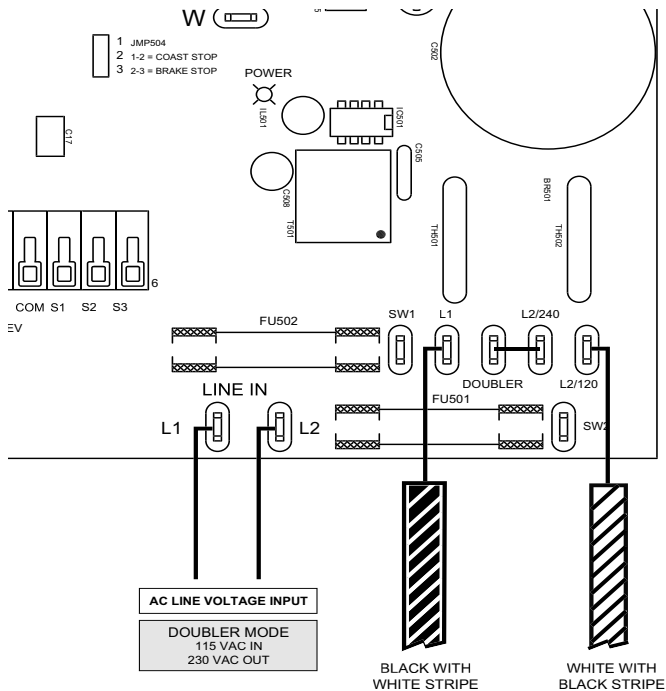

Figure 3. AC Line Connection With Voltage Doubler (115 VAC In, 230 VAC Out)
1. Connect the AC line voltage leads to the LINE IN terminals as shown in Figure 3 (page 10).
3. Jumper the DOUBLER and L2/240 terminals as shown in Figure 3 (page 10).
Refer to Figure 3 (page 10) for connection information. Use extreme caution when connecting this feature. Incorrect use of this feature may result in fire and serious injury.